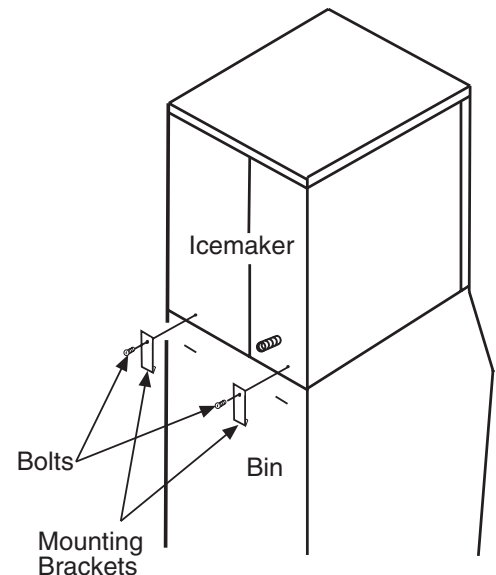

Fig. 2
- 4) Secure the icemaker to the storage bin, by using the two universal braces and the two bolts provided. See Fig. 2